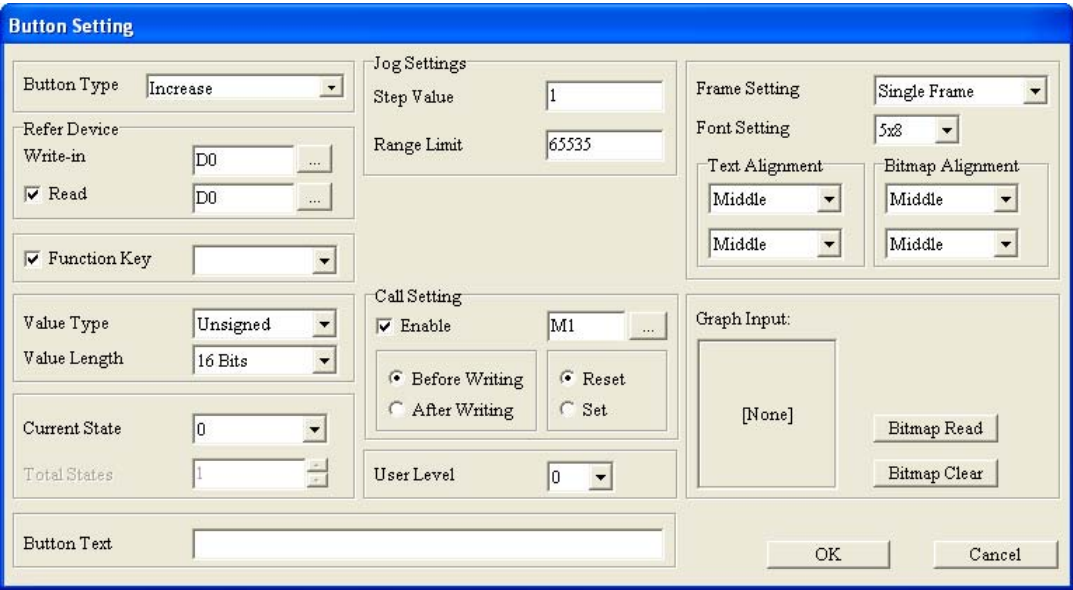
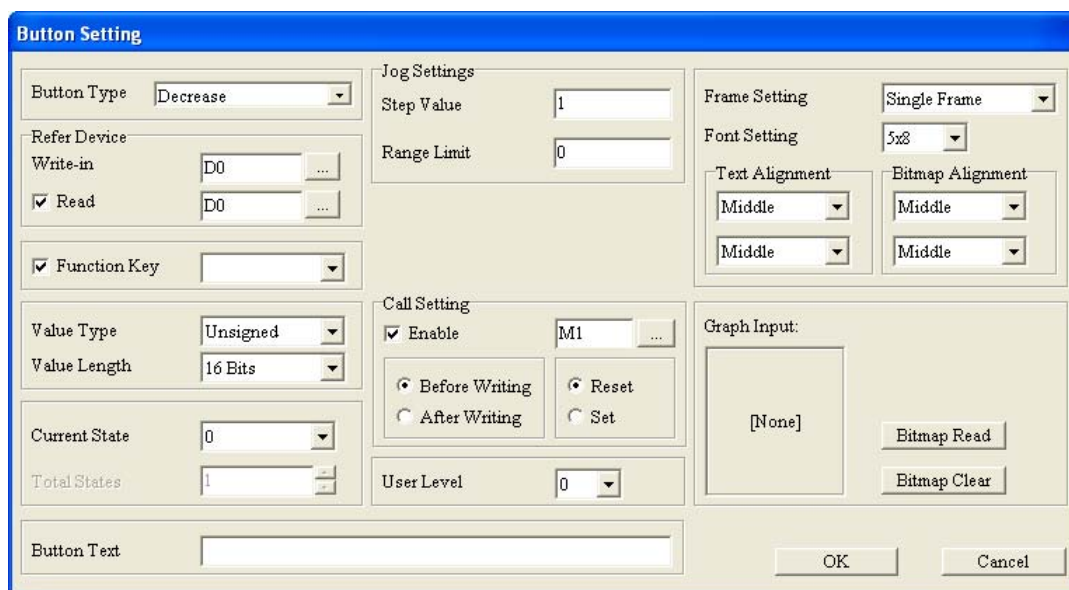

Figure 4-66 **Button Setting** window
Figure 4-67 **Button Setting** window
- If **Increase** is selected, the **Button Setting** window will be as shown in Figure 4-66. If **Decrease** is selected, the **Button Setting** window will be as shown in Figure 4-67